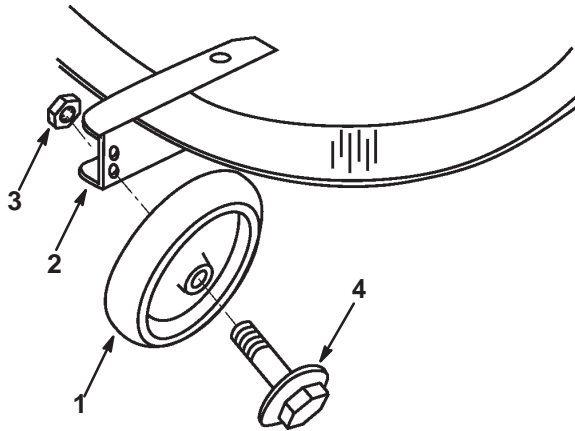

Figure 7
1. To change the height of mower wheels remove wheel mounting bolt and change hole into which it is mounted (Fig. 7).
2. Use the top hole for low height-of-cut and the bottom hole for high height-of-cut (Fig. 7).